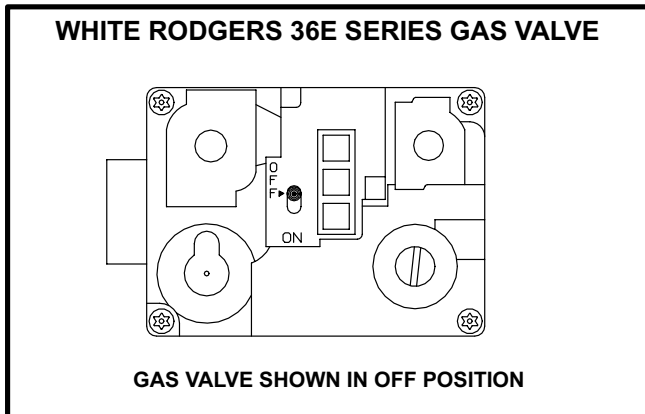

FIGURE 2
Gas Valve Operation (Figures 2 and 3)
- 6 - *White Rodgers 36E Gas Valve* - Switch gas valve lever to **OFF**. See figure 2.